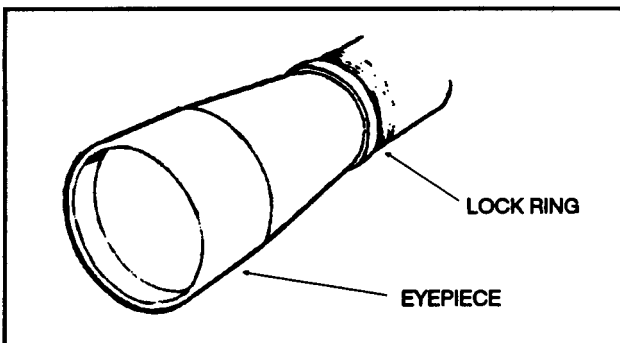

Figure 2-19. Eyepiece adjustment.
(4) *Eyeiece adjustment.* The eyepiece (Figure 2-19) is adjusted by turning it in or out of the barrel until the reticle appears crisp and clear. Focusing the eyepiece should be done after mounting the scope. The sniper grasps the eyepiece and backs it away from the lock ring. He does not attempt to loosen the lock ring first; it loosens automatically when he backs away from the eyepiece (no tools needed). The eyepiece is turned several turns to move it at least 1/8 inch. It takes this much change to achieve any measurable effect on the focus. The sniper looks through the scope at the sky or a blank wall and checks to see if the reticle appears sharp and crisp. He locks the lock ring after achieving reticle clarity.